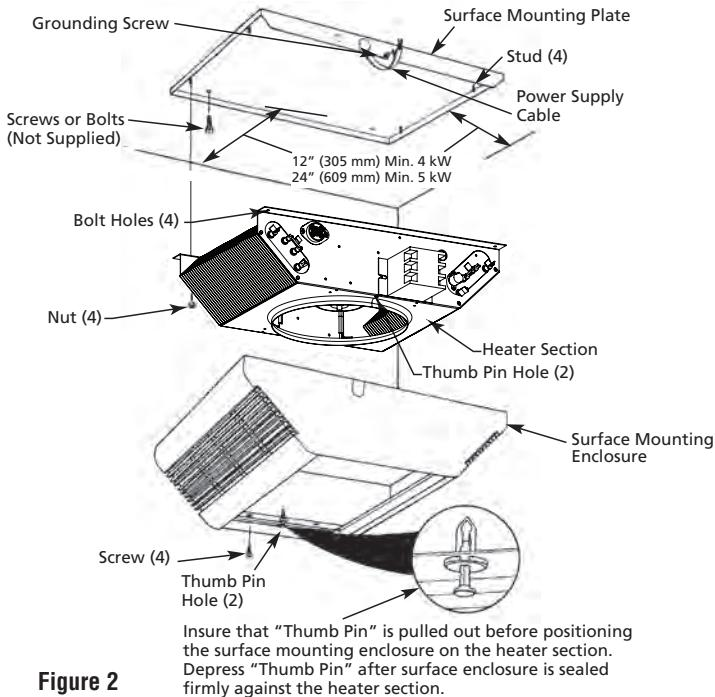

Figure 2
6. Position the surface mounting plate against the ceiling and secure with bolts or screws (Figure 2). See Warning No. 9. Connect the ground wire to the green ground screw on the surface mounting plate.
10. Position the heater section over the studs on the surface mounting plate (Figure 2).
11. Push the heater section onto the studs and securely tighten four nuts (supplied) on the studs to secure the heater section to the surface mounting plate (Figure 2).
FAILURE TO INSTALL THE FOUR MOUNTING NUTS COULD RESULT IN THE HEATER FALLING. (SEE FIGURE 2)
NOTE: Insure that the "thumb pin" in each end of the discharge grille opening is pulled outward to allow the body of the thumb pins to fit into the holes in the heater section. (Figure 2).
15. Install and securely tighten four screws (supplied) to secure the surface wrapper to the heater section (Figure 2).
FAILURE TO INSTALL THE FOUR SCREWS, COULD ALLOW THE SURFACE WRAPPER TO FALL. (SEE FIG. 2)
FAILURE TO INSTALL THE FOUR MOUNTING NUTS COULD RESULT IN THE HEATER FALLING. (SEE FIG. 2)
FAILURE TO INSTALL THE FOUR SCREWS, COULD ALLOW THE SURFACE WRAPPER TO FALL. (SEE FIGURE 2)